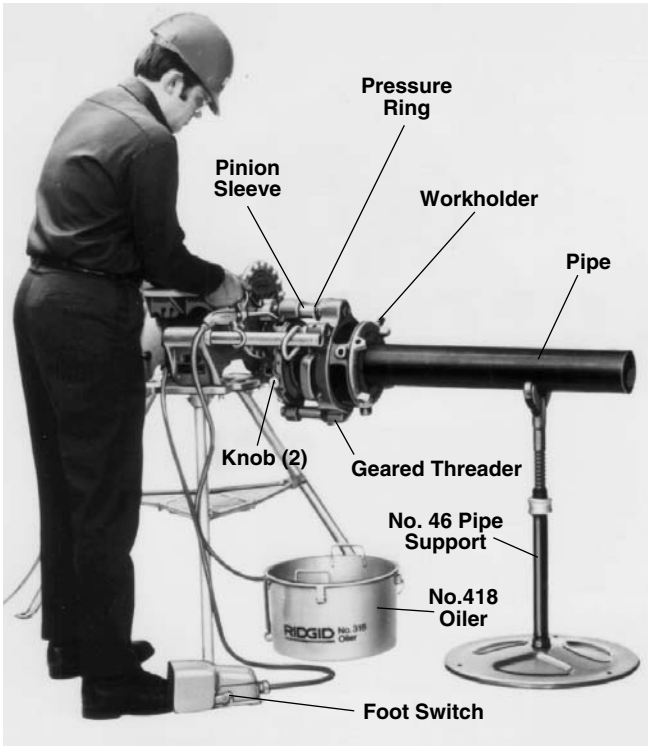

Figure 21 – Threading Pipe with No. 141 Geared Threader (Close-Coupled Method) (No. 161 Threader Similar)
6. Support pipe with a pipe support (Figure 21). Position support approximately 2-1/2 feet from threader.
9. Position No. 418 Oiler directly under threader (Figure 21).